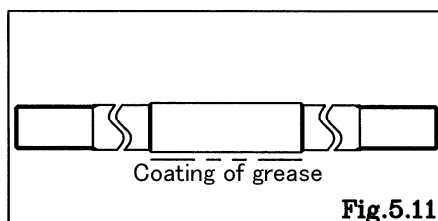

Fig.5.11
- Apply assembly grease(urea) to center rod, and insert it into the main body. [Fig.5.11]
- Apply assembly grease(urea) to center rod, and insert it into the main body. [Fig.5.11].